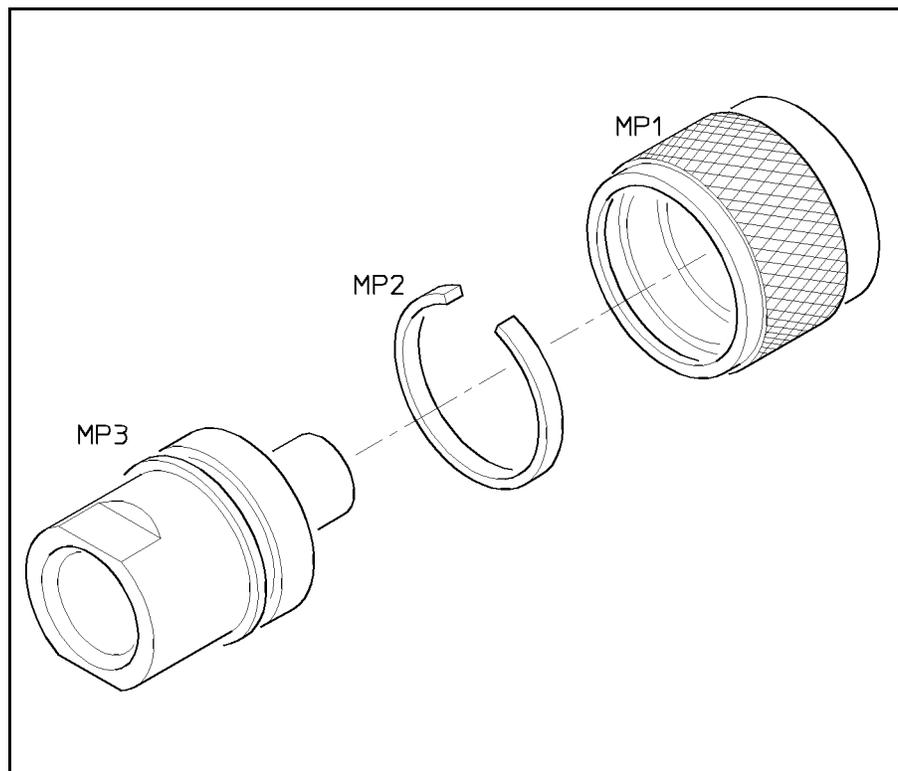

Figure 6. P/O A1 Bulkhead Assembly
1. Refer to the parts list and figures 6, 7, and 8. Order the internal type N bulkhead parts A1MP1 through A1MP12. (8482A and 8483A do not use A1MP12 polyiron slug. The precision 7mm connector A1MP1 comes assembled, so A1MP2 and MP3 are unnecessary.)